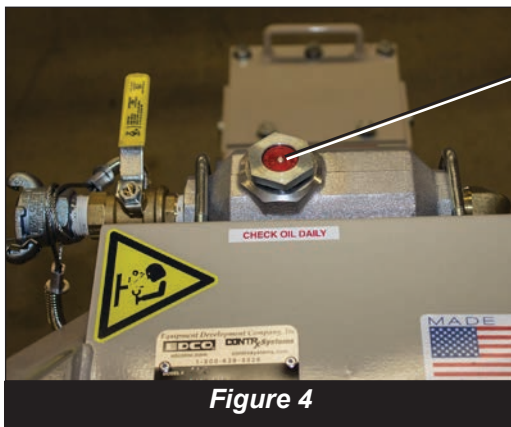

Figure 4
In addition, during operation it will be necessary to maintain the correct amount of oil in the lubricator. This oil in the lubricator is essential to the operating life of the components in the cylinder head. The proper oil in the airflow reaching the pistons and cylinders will help flush away any contaminants as well as lubricate the close tolerance components and will leave a non-corrosive film to eliminate rusting of the surfaces. The adjustment is located under the cap with the red center as shown *Figure 4*, below follow manufacturers instructions for adjustment.
- (1) Drain moisture from water filter (at compressor).
- (2) Fill lubricator with proper grade of oil (*Figure 4*).